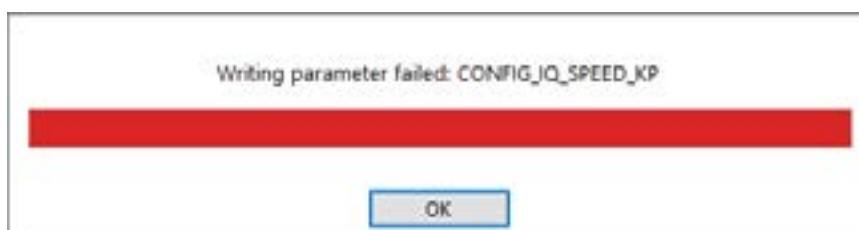

Figure 3.40 Configuration – Unsuccessful import
b) If it was not imported successfully (Fig. 3.40), click on “OK” and continue following point 1 and try to import the file again.